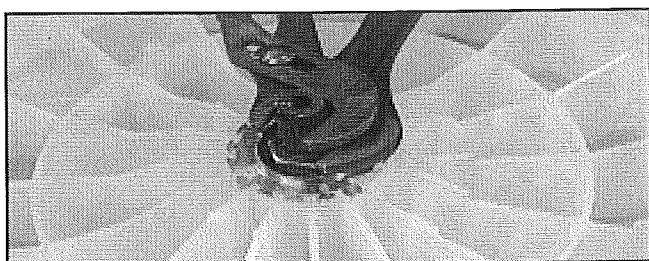

FIGURE 6
10. Remove Shaft Nut. See *Figure 6*.